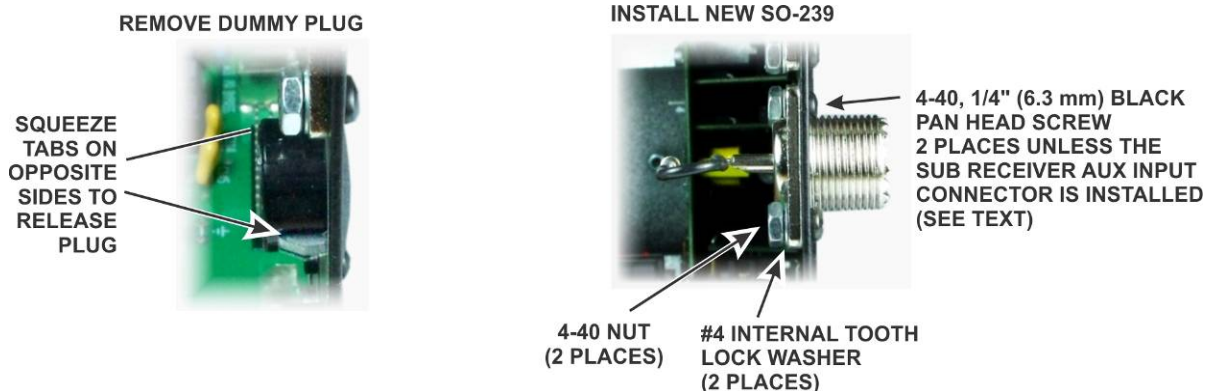
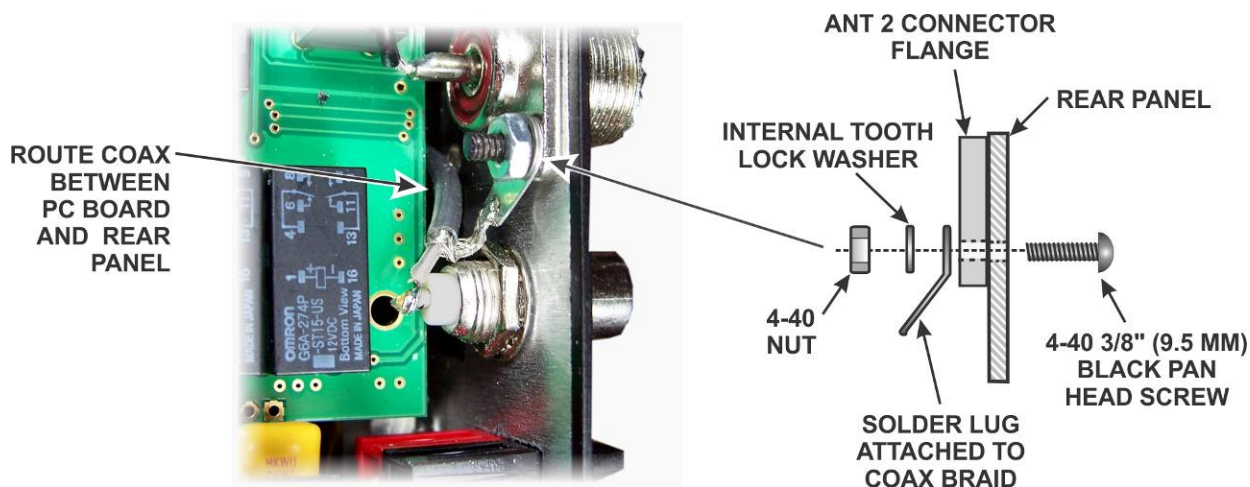

Figure 8. Installing ANT 2 Connector.
Figure 9. Installing AUX RF Ground Lug.
- ❑ Remove the dummy plug from the ANT 2 connector hole in the back panel. The plug is released by squeezing two tabs on opposite sides (see Figure 8).
- ❑ Install the SO239 coaxial connector in the ANT 2 space using the hardware shown in Figure 8. If the optional sub receiver AUX RF connector is installed, remove the 3/8" (9.5 mm) black pan head screw and associated hardware from the lower hole, then use the same screw to replace the AUX RF ground lug as shown in Figure 9
- ❑ Plug the KAT3A board into P70 on the RF board. **Wear a wrist strap or touch an unpainted metal ground before handling the boards.** Flex the back panel slightly as needed for the board to clear the lip at the top, just as you did when removing the KANT3 board. If the AUX RF connector is installed, route the coaxial cable between the KAT3 board and rear panel as shown in Figure 9.